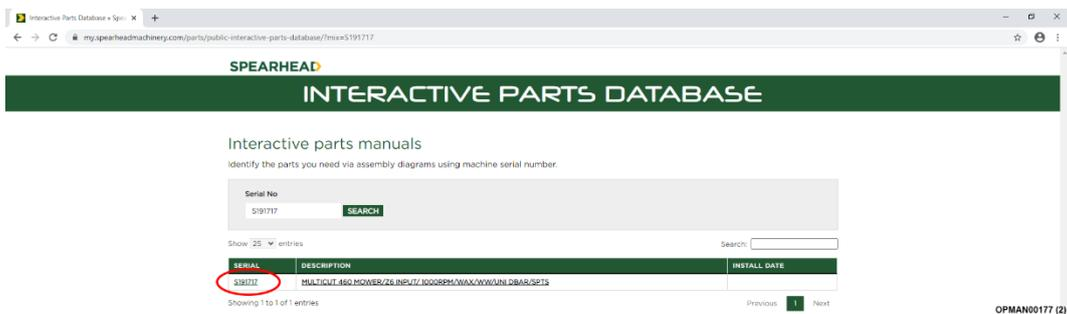

Figure 38 – Click On Serial Number
14.1.1.2 After entering the serial number a specification for the machine will appear. Click on the serial number; see Figure 38.